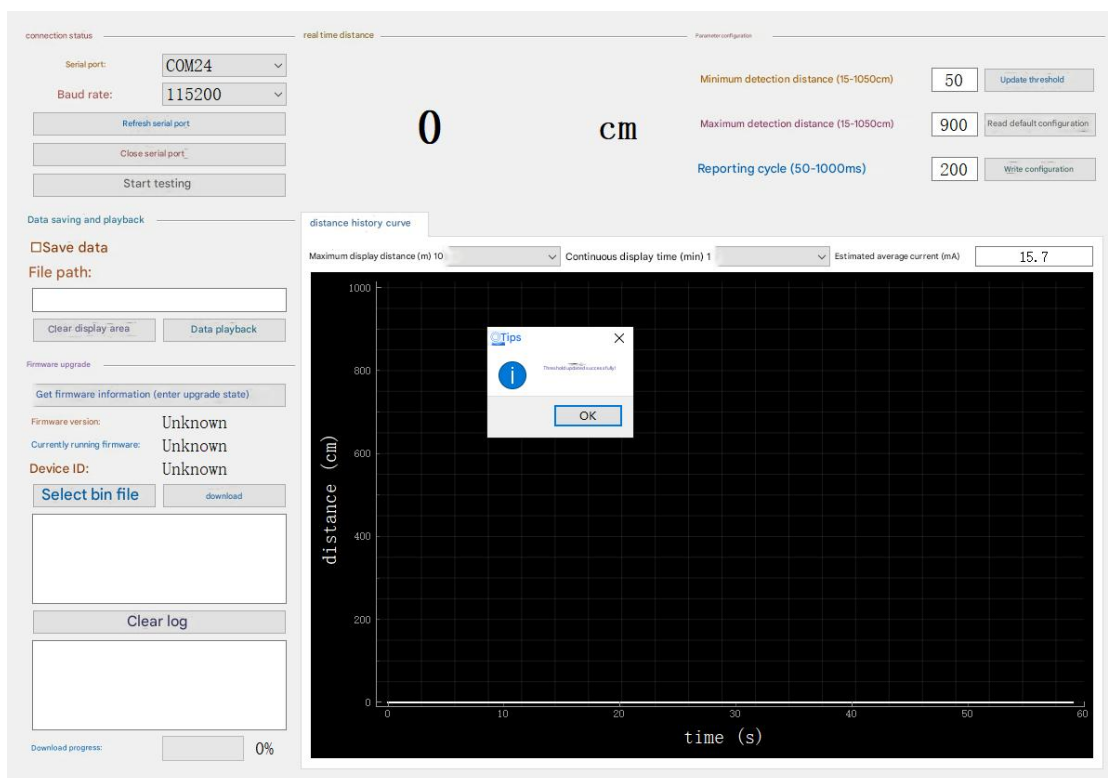

Figure 4 - 4 The threshold update success display interface
Step 3. Click the " Update Threshold " button. After the update is completed, a pop-up window of " Threshold Update Successful" will appear, as shown in Figure 4 - 4 .